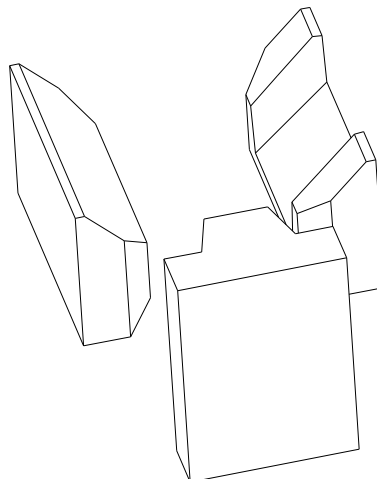

Figure 7. Thermal concrete in the furnace firebox
- whether furnace fireclay is properly positioned (**Figure 7**)